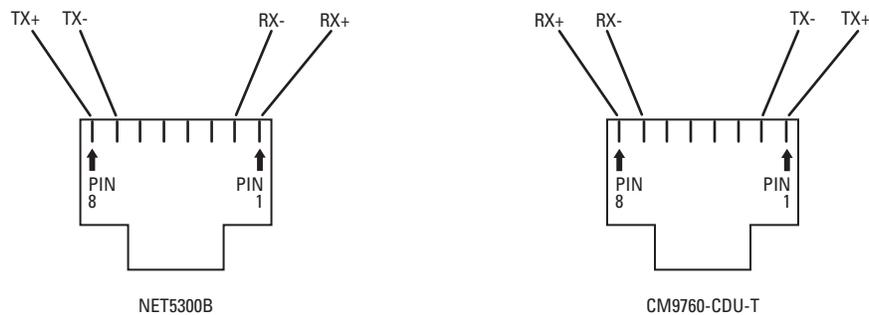

Figure 17. RJ-45 Pin Assignments to CM9760-CDU-T
- To create your own cable, refer to Table B and Figure 17 for the RJ-45 pin assignments for both the NET5300B and the CM9760-CDU-T. The maximum cable length from the NET5300B to the CDU is 4,000 ft (1,219 m).